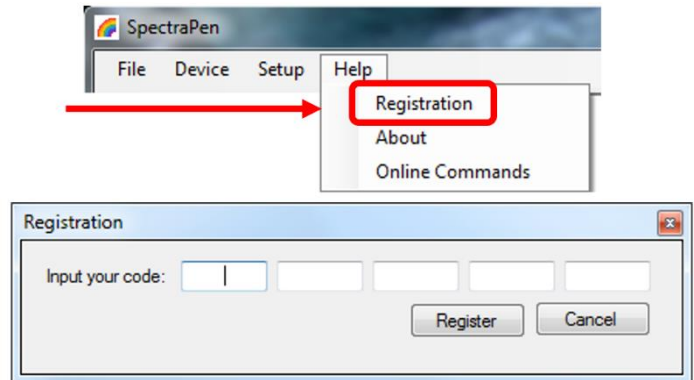

Fig. 24 Software registration.
2. To connect and recognize the SpectraPen device in the SpectraPen software, proceeds first with the registration of the SpectraPen software (Fig. 24).